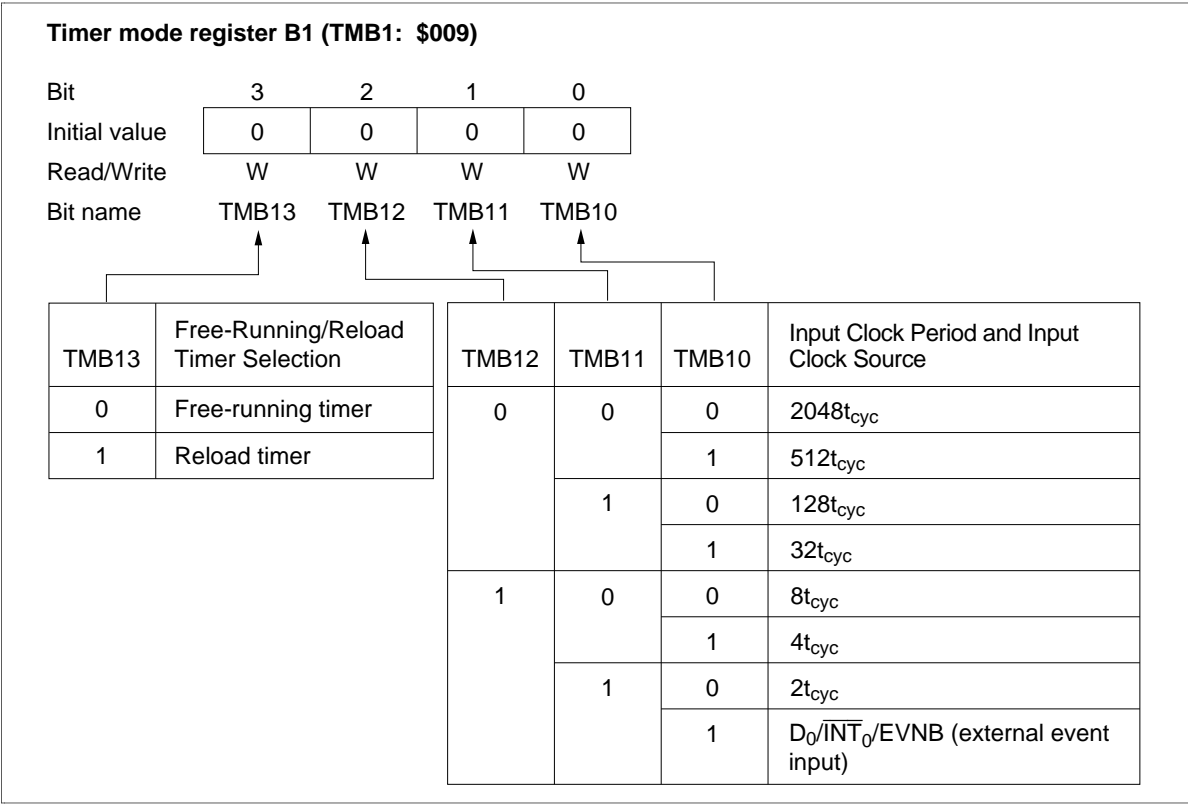

Figure 27 Timer Mode Register B1 (TMB1)
- Timer mode register B1 (TMB1: \$009): Four-bit write-only register that selects the free-running/reload timer, input clock, and prescaler division ratio, as shown in figure 27. It is reset to \$0 by an MCU reset. Data written to timer mode register B1 is valid after two instruction cycles. The initial setting of timer B, which is set by writing to timer write register B (TWBL: \$00A, TWBU: \$00B), should be programmed only after a mode change has been effective.